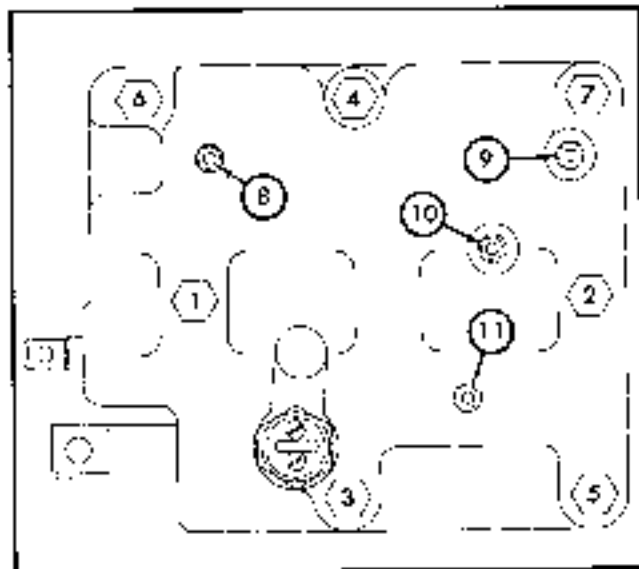

Fig. 1-39. Torque Sequence & Test Ports
i. Use new O-rings (50A1829) on attaching bolts. Torque bolts evenly and gradually to 20-25 ft. lbs. in sequence shown in Fig. 1-39.
3. Fig. 1-39 shows pressures and check ports. Check both forward and reverse clutches.